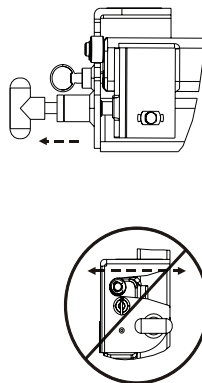

Figure 4-16
5. Verify the upper arm is locked and does not move. **See Figure 4-16.**